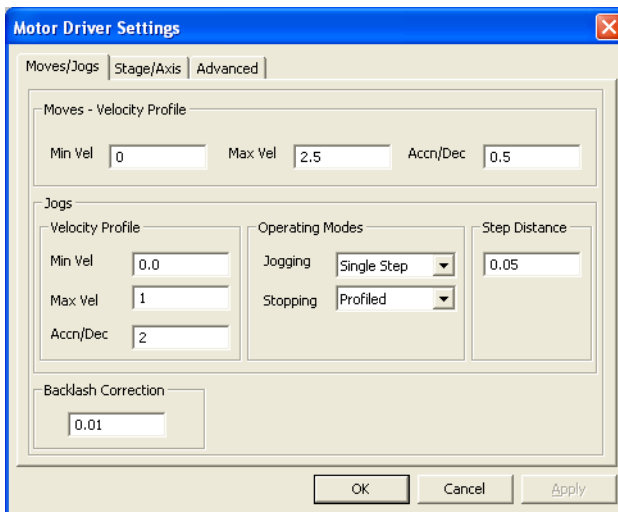

Fig. 3.7 Settings Panel - Move/Jogs Tab
During PC operation, the motor actuators are jogged using the GUI panel arrow keys. There are two jogging modes available, 'Single Step' and 'Continuous'. In 'Single Step' mode, the motor moves by the step size specified in the Step Distance parameter. If the jog key is held down, single step jogging is repeated until the button is released - see Fig. 3.7. In 'Continuous' mode, the motor actuator will accelerate and move at the jog velocity while the button is held down.
- 2) Select the Move/Jogs tab as shown in Fig. 3.7.